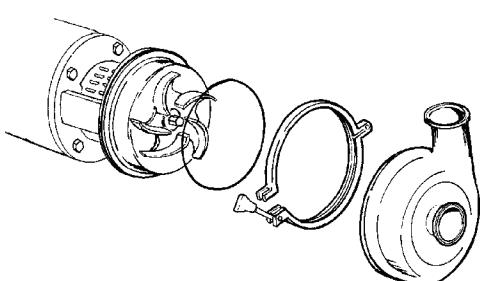

Figure 46 - Install Casing
29. Install the casing o-ring on the backplate and clamp the casing in place. See Figure 46.